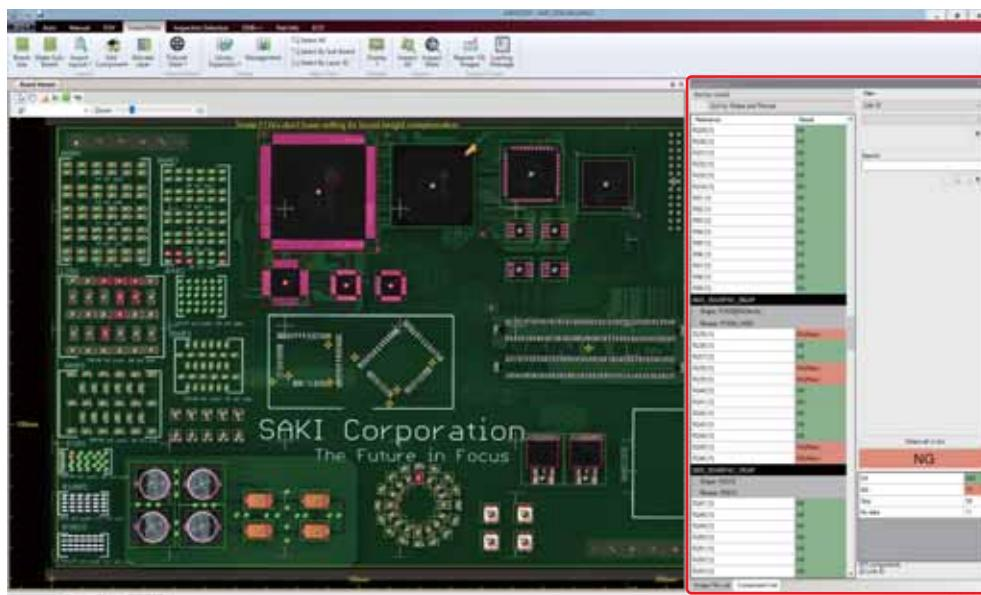

Figure 2-7 Inspection Results
Step3: The inspection results are displayed on **Board Viewer** and on the right side of the dialog (the area framed box in red on Figure 2-7).